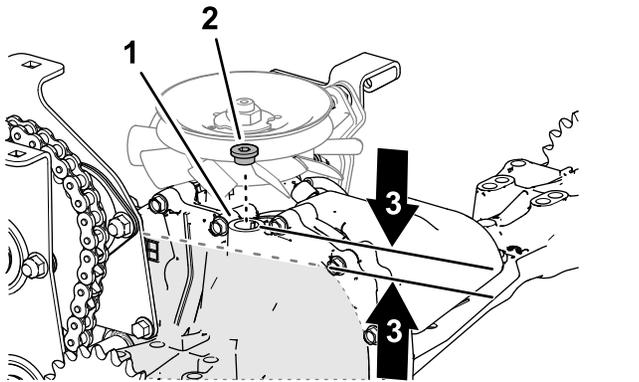

Figure 61
1. Fill the transaxle with the specified oil through the drain/fill port until the oil level is 13 to 32 mm (1/2 to 1-1/4 inches) below the top of the port (Figure 61).